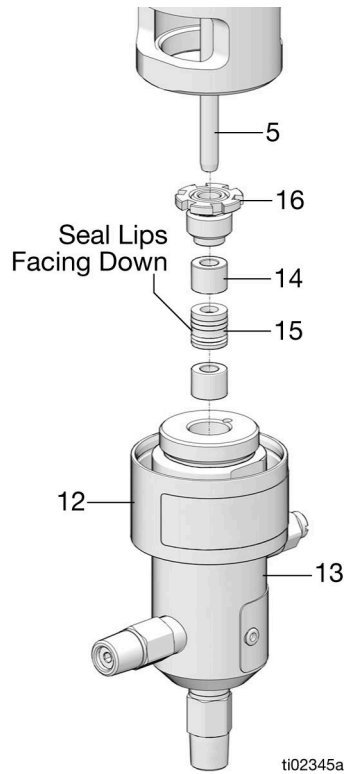

FIG. 8 Remove parts from fluid cylinder
5. Carefully slide the fluid cylinder (13) away from the air motor housing (1), taking great care to keep the fluid plunger (5) from contacting any metal surfaces. The fluid plunger (5) will stay attached to the air motor during repair. See FIG. 7 and FIG. 8.